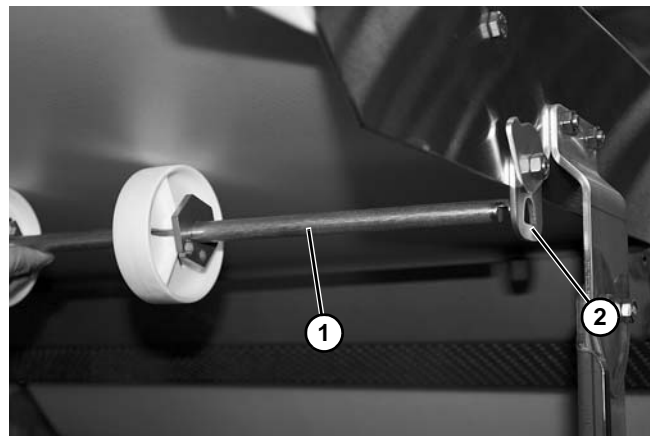

Figure 22
5. Install belt return assembly (**Figure 22, item 1**) onto return brackets (**Figure 22, item 2**).